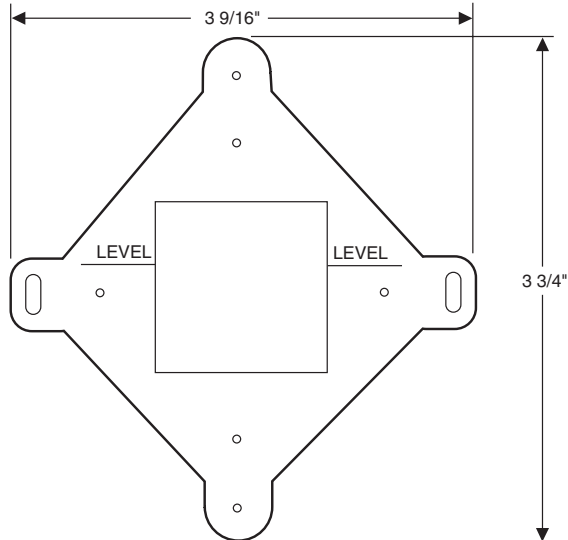
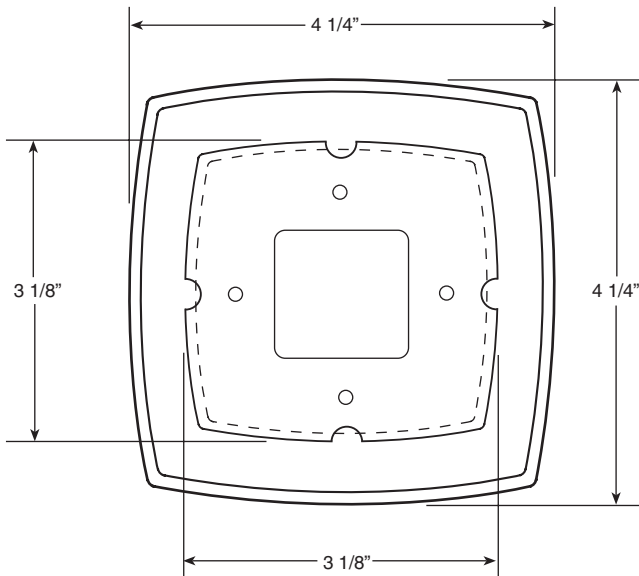

Fig. 2A — Metal Mounting Plate Dimensions
Fig. 2B — Plastic Mounting Plate Dimensions
- 4. If mounting plate is being used, install mounting plate on wall or junction box. Mounting plate consists of two pieces: the metal mounting plate (see Fig. 2A) and the plastic mounting plate (see Fig. 2B). The standard mounting plate will cover a 2 x 4-in. or 4 x 4-in. junction box. Accessory mounting plates of different sizes are also available. Accessory mounting plate part numbers are P474-0421 (7 x 4 1/4-in.) or P474-0421L (5 1/2 x 6 1/4-in.).